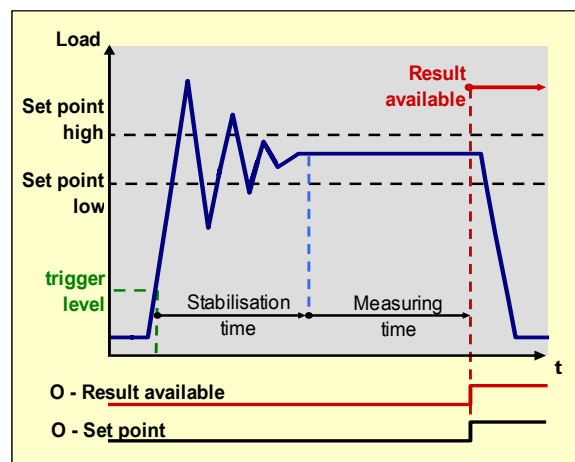

Fig. 9
- by a trigger level (Fig. 9) when the load cell signal reaches the specified value.
Outputs may be assigned to the set-point function. Set-points are triggered by the measurement result (fig. 9). As long as checkweigher result is not available (????????) or (**FF FF FF FF**), it is seen like a value < to set point.